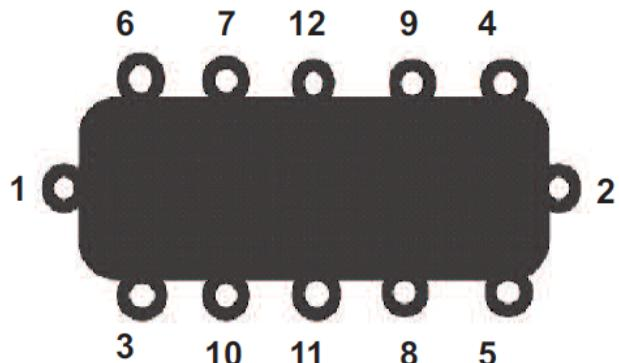

Figure 3. Tightening Torque Pattern
14. Re-Install the twelve (12) 7/16" hex head nuts that secure the header.
15. Follow the torque pattern (and tightening specifications) when tightening the nuts onto the stud bolts (See **Figure 3**).
NOTE: Bolts must be tightened according to the pattern in Figure 3 in ascending order. Torque specifications are 7FT/Lbs ($\pm 1/2$). For field replacement, when no torque wrench is available, tighten nuts hand-tight, then turn 1/2 turn with a standard wrench.